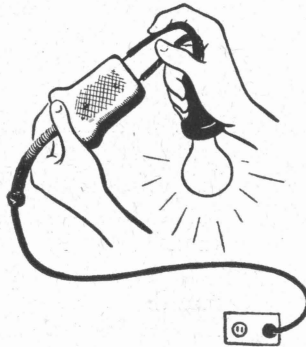

Fig. 6
1. Plug cord into convenience outlet. Fig. 6.
2. Insert trouble lamp (weatherproof socket and bulb) into appliance plug. Fig. 6. If the lamp does not burn, the cord or plugs need to be repaired.